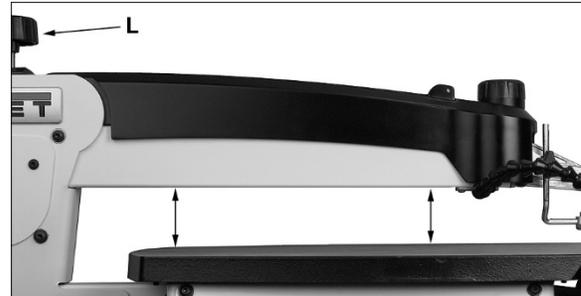

Figure 9-10: arm/table parallelism
2. First verify that upper arm is parallel to table surface (Figure 9-10). Push arm down, and measure at front and back of arm; if measurements are different, rotate arm adjustment knob (L) until upper arm is parallel.